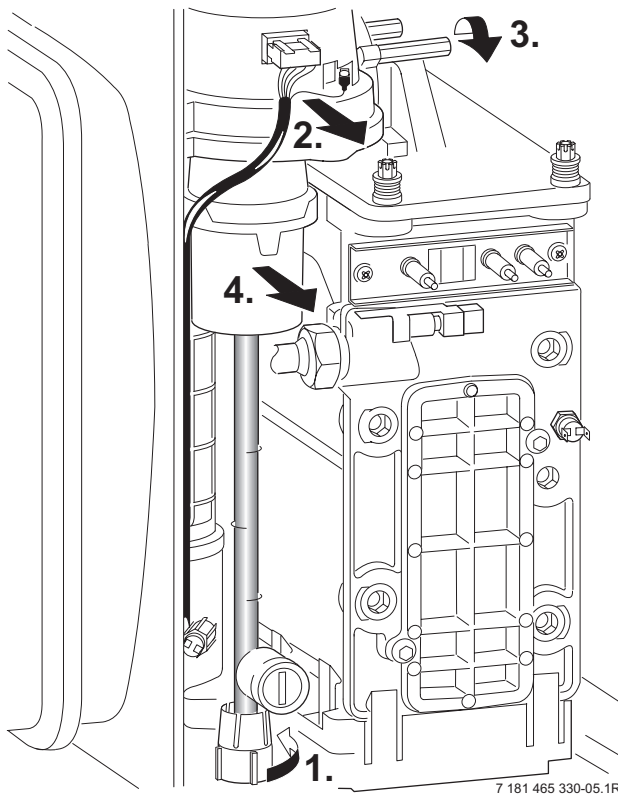

Fig. 62
- ▶ Undo lower pipe union on gas pipe (1.). Refer to fig. 62.
- ▶ Undo the union, within the inner casing, securing the valve to the gas/air tube. Refer to fig. 62.